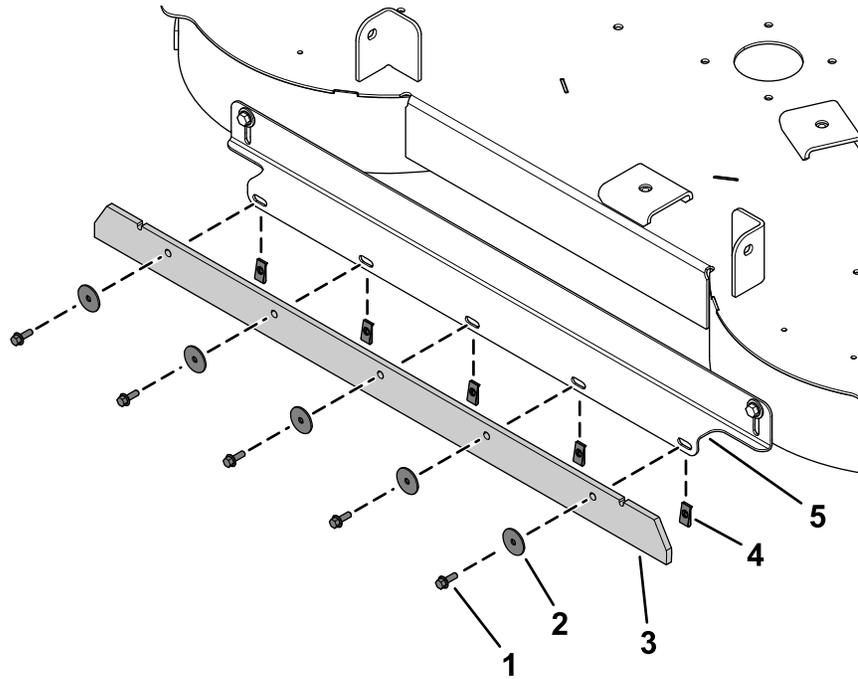

Figure 12
1. Install the 5 speed nuts onto the striping bracket (Figure 12).
2. Secure the wiper to striping bracket and speed nuts using 5 hex-head screws (1/4 x 3/4 inch) and 5 washers (Figure 12).